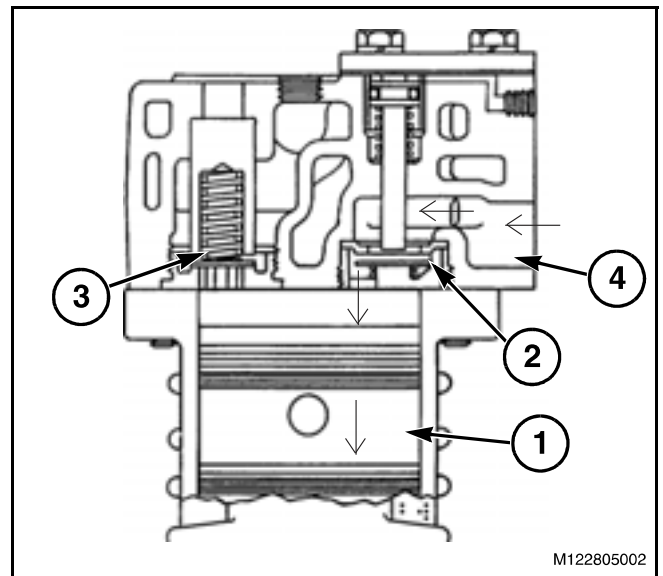

FIG. 2
FIG. 2: During the down stroke of the piston (1), a slight vacuum is created between the top of the piston and the cylinder head, causing the inlet valve (2) to move off its seat and open. Atmospheric air is drawn through the air strainer and the open inlet valve (4) into the cylinder.